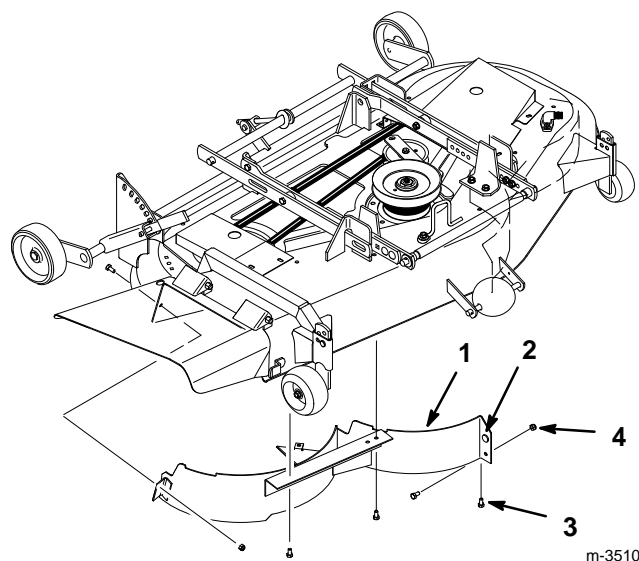

Figure 24
2. Remove lock nuts from top and discharge side and center flange of mower (Fig. 24). Slide baffle into discharge opening and raise into mower so pin on center flange engages left baffle.
3. Secure with previously removed 5/16–5/8" (16 mm) bolts and 5/16" lock nuts in top, discharge side and center flange holes of baffle (Fig. 24).